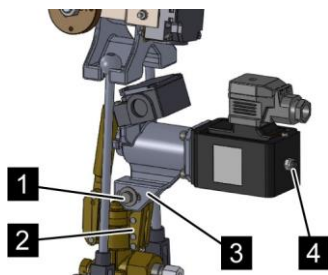
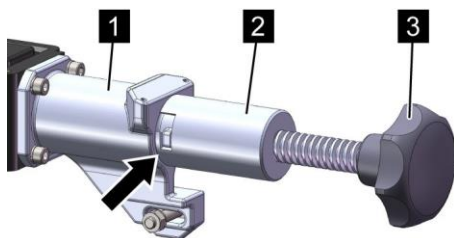

Fig. 75: Mounting the EM release device
Fig. 76: Clamping device
14. ➔ First loosely fasten the holder (Fig. 75/3) of the EM release device with the included hex bolt (Fig. 75/1), hex nut and washer on the base of the valve (Fig. 75/2).
15. ➔ Fit the clamping device (Fig. 76/2) onto the holder of the EM release device (Fig. 76/1) and fix it in place (Fig. 76/arrow).
16. ➔ By turning the adjustment wheel, push the release pin (Fig. 76/3) of the clamping device far enough into the housing that the locking bolt (Fig. 75/4) can be pushed in the counter direction and lock the release pin.
20. ➤ Tighten the hex nut (Fig. 75/1).